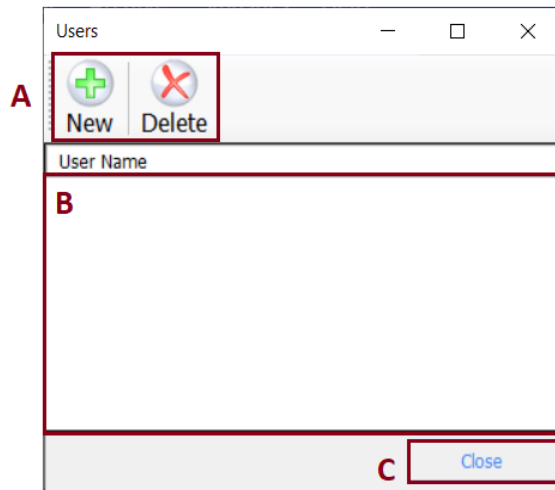

Fig 4-4 **Users** window
2. In users list area (B in Fig 4-4), select the user you wish to delete.
1. From the **Users** window (Main window >Settings>Users), double-click the user you want to edit (B in Fig 4-4).